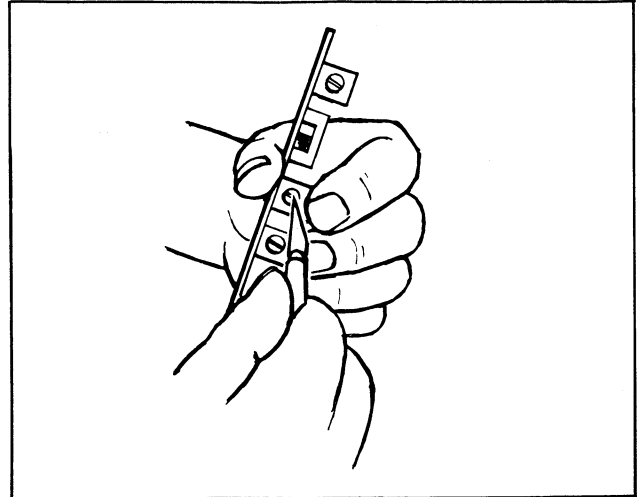

Figure 23. Pot Seal Removal
5. Scrape "pot.seal" from potentiometer to be adjusted. (Support potentiometer with fingers as shown here.) See Figure 23.